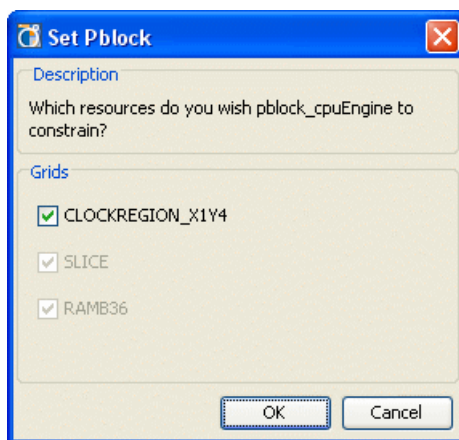

Figure 10-7: Set Pblock Dialog Box to Confirm Pblock as Clock Region
2. In the **Set Pblock** dialog box, as shown in Figure 10-7, select **OK** to define the Pblock range as the clock region (CLOCKREGION_X).